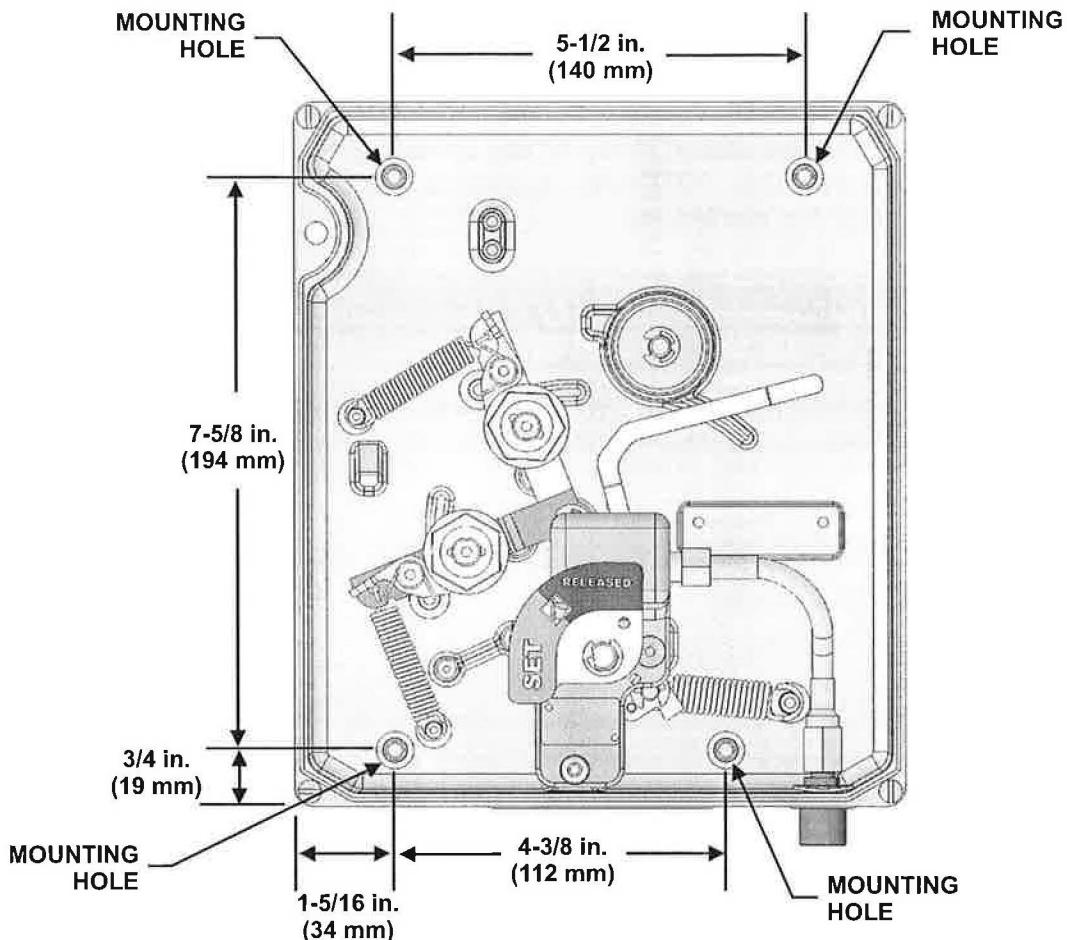

Figure 4-10. Location of Mounting Holes (Housing)
- With the UCH Control System cover removed, lay the box on its back. Locate the four mounting holes in the housing. Position the box so that the mounting holes are not flat on the work surface and break out the knockouts. See Figure 4-10 for location of mounting holes.